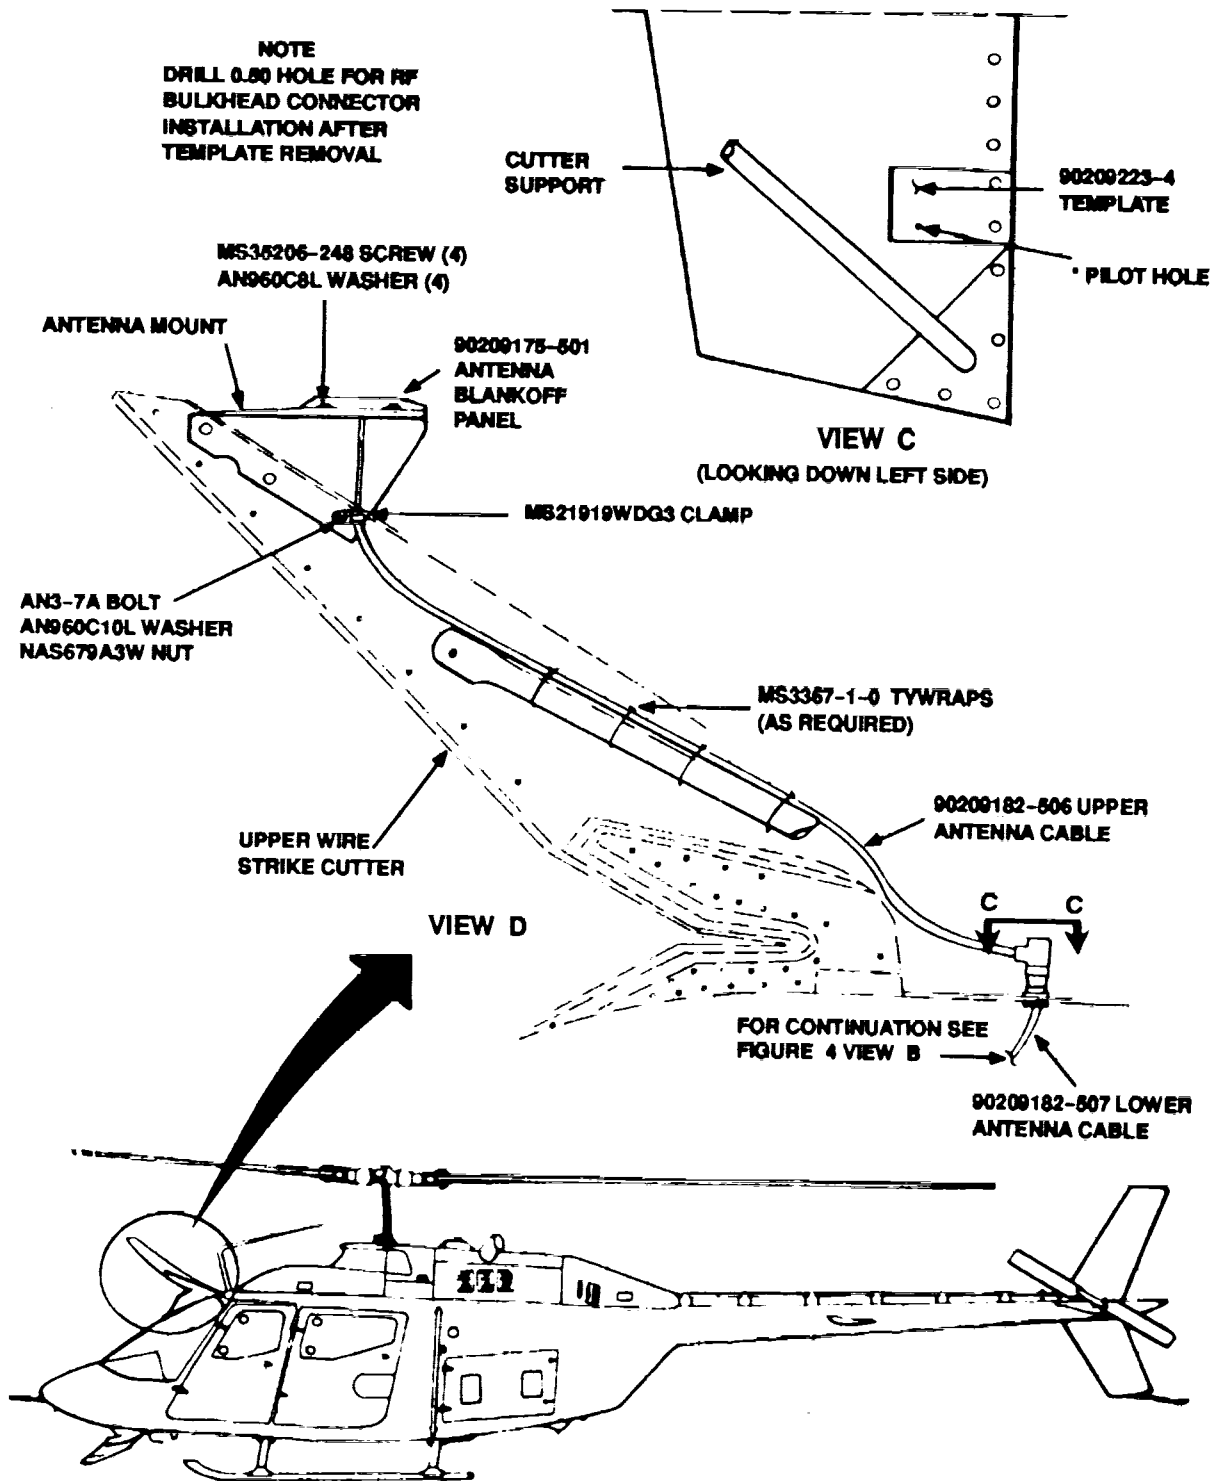

Figure 5. GPS Power Cable and Antenna Installation.
(37) Install clamp (P/N MS21919WDG3) to lower mounting bolt on antenna mount (Figure 5, View D).
(38) Secure antenna cable to antenna mount with clamp (P/N MS21919WDG3) (Figure 5, View D).
a. Remove GPS antenna Blankoff panel (if installed) from GPS antenna mount (Figure 5, view D).
- (1) Check antenna cable connection to Trimpack receiver.
- (2) Check antenna cable connection to bulkhead connector.
- (3) Check antenna cable connection to GPS antenna.
- (4) Recheck antenna installation.
- d. Install antenna Blankoff panel (PIN 90209175-501) on GPS antenna mount with four screws (PIN MS35206-248) and washers (P/N AN960C8L) (Figure 5).